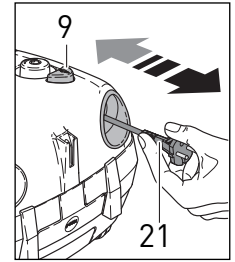
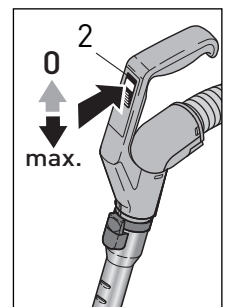

Figure 1
Figure 10
## Starting The Machine - Figures 1, 2 & 3
1. With the canister main power control knob (10) in the OFF position, grasp the plug and pull the power cord (21) out from the power cable recess (figure 1). The power cord (21) should be unwound from the cable reel at least two thirds of its length. **Note:** do not over-extend the cord.
3. Press the main power knob on the base of the canister (10) gently with your foot or hand. A blue light will illuminate indicating that the power is on.
## Operating the Machine - Figures 1, 4, 5, 6, 7 & 8
To retract the cord, switch the vacuum off, unplug it from the outlet, then push the power cable rewind button (9, figure 1) and the mechanism will automatically rewind. Before rewinding the cable, always switch off and unplug the vacuum. Hold the plug while rewinding the cord onto the cord reel. Avoid letting the plug whip while rewinding.
## Starting The E3 Premium and Suction Control - Figures 1, 2, 9 & 10
1. With the canister main power control knob (10) in the OFF position, and the power control slider on the handle (2, figure 10) in the OFF position, pull the power cord out from the base of the canister (figure 1). The power cord should be unwound from the cable reel at least two thirds of its length.
4. Slide the Power Control Slider (2, figure 10) toward the MAX position. It will move freely between 0 suction and MAX suction. Set the slider to the suction desired.
## Operating The E3 Premium - Figures 1, 11 & 12
To retract the cord, switch the vacuum off, unplug it from the outlet, then then push the power cable rewind button (9, figure 1) and the mechanism will automatically rewind. Before rewinding the cable, always switch off and unplug the vacuum. Hold the plug while rewinding the cord onto the cord reel. Avoid letting the plug whip while rewinding.